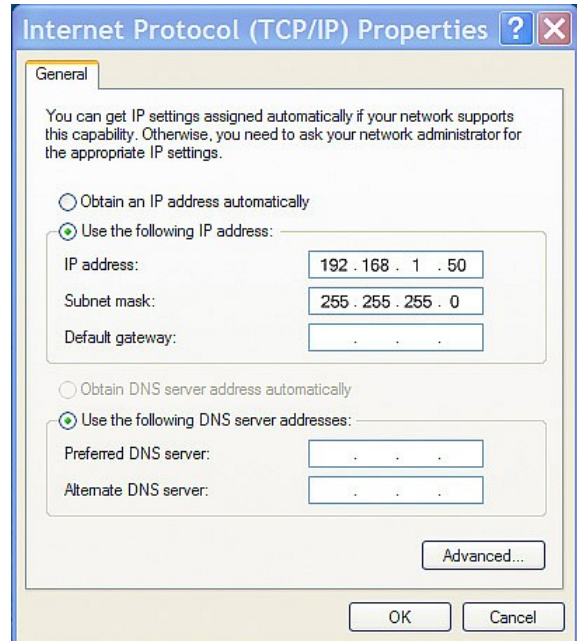

Figure 2.3e- TCP/IP Properties
- In the Local Area Connection Properties window in the Connection Uses box, scroll down and highlight "Internet Protocol (TCP/IPv4)." Click the button labeled Properties. The Internet Protocol (TCP/IPv4) Properties menu appears (Figure 2.3e).